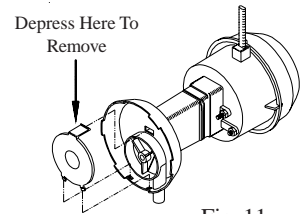

Fig. 11
- **Clean pump.** Cleaning the pump is necessary once a year at start-up. For your safety, turn unit off and unplug motor and pump. Remove the pump from the mount slot. Remove the base of the pump as shown in Fig. 11. Clean the pump and turn the impeller to ensure free operation. Remove the pump spout and check for any